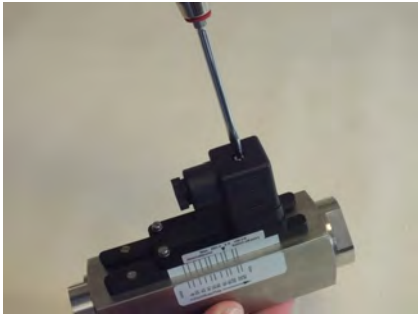

Fig. 22: Detach socket
1. ➔ Release the fixing screw (Fig. 22/1) from the socket
9. ➤ Place the female socket onto the connecting plug and tighten the fixing screw (Fig. 22/1)